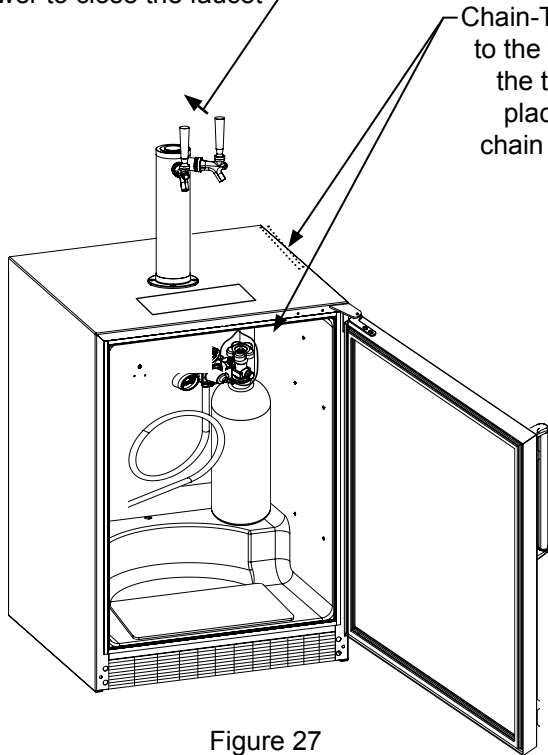

Figure 27
- Locate the CO₂ tank in the corner of the refrigerator as shown in Figure 27 and secure with the chain. Close the faucet handle on the tower.